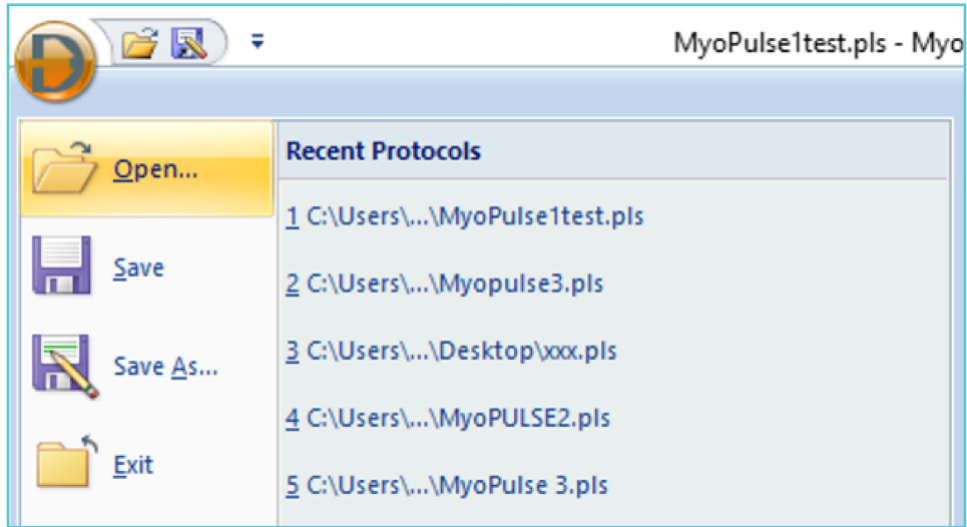

Figure 4.1.5 Opening an existing protocol to load into All channels
3. Load a stimulation Protocol for all channels by clicking on the icon 'D' and 'Open' in the top left corner/ application button (*.pls files) as shown in figure 4.1.5.